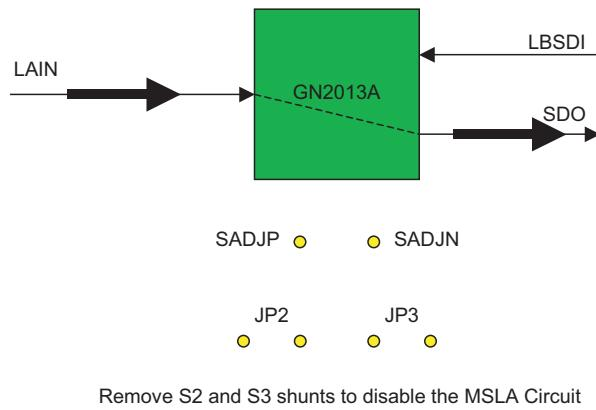
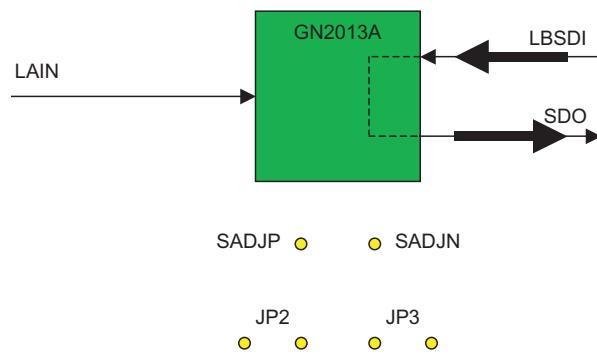

Figure 4-3: Configuration Example 3
Figure 4-4: Configuration Example 4
1. Configure the evaluation board in accordance to the required mode (i.e., see Figure 4-1 on page 8, Figure 4-2 on page 9, Figure 4-3 on page 10 and Figure 4-4 on page 11). Other configurations are possible.
Configuration, illustrated in Figure 4-3, corresponds to:
Configuration, illustrated in Figure 4-4, corresponds to: